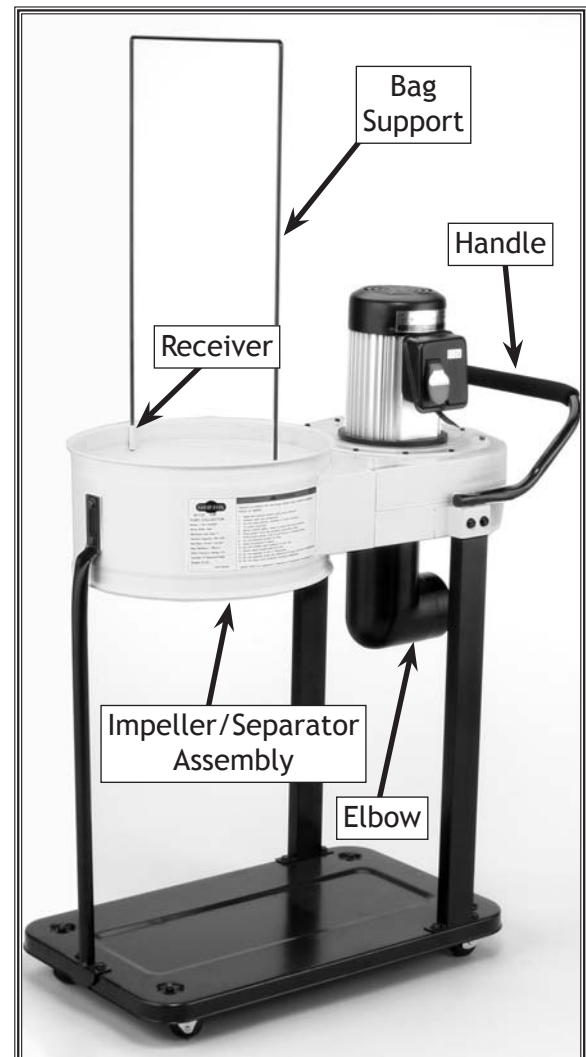

Figure 11. Basic assembly.
5. With the help of an assistant, attach the impeller/separator assembly to the supports with the remaining six $\frac{5}{16}$ "-18 x $\frac{1}{2}$ " hex bolts (see **Figure 11**).
6. Position the elbow as shown in **Figure 11**, and secure it in place with the 10-24 x $\frac{3}{8}$ " flange screw.
7. Position the handle as shown in **Figure 11**, and secure it in place with two $\frac{5}{16}$ "-18 x 1" flat head screws.
8. Insert the ends of the bag support into the receivers welded to the impeller/separator assembly until the ends are completely seated (see **Figure 11**).